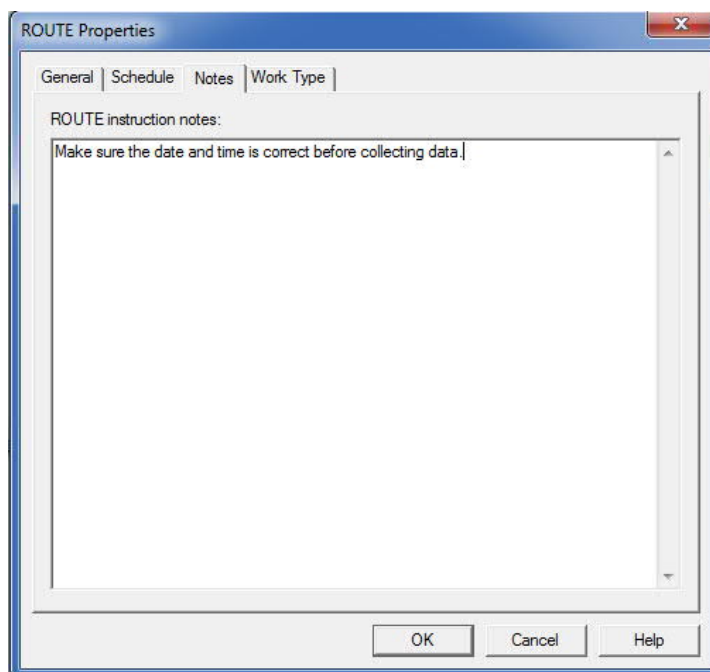

Figure 2. ROUTE instruction notes field
3. Click the Notes tab and type the message to be displayed before data is collected on this specific route, and then click OK. [Figure 2]